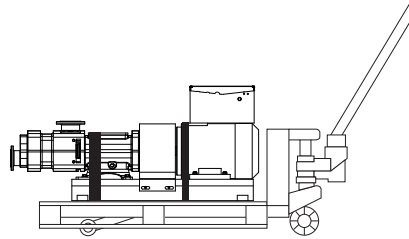

Fig. 6 Transport by forklift
- ▶ Check whether the pump is adequately secured on the pallet. For instance using straps, see Fig. 6 "Transport by forklift", Page 9.